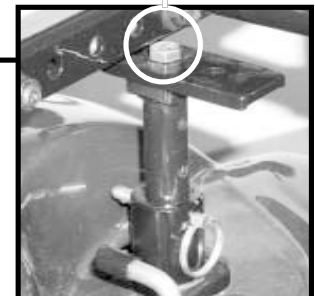

FIGURE 7. Width Adjustment
1. Remove the width adjustment bracket side bolts from each side of the seat base (there are a total of four width adjustment bracket side bolts), using a 1/2-inch wrench. See figure 7.
1. Loosen the width adjustment bracket bolts (four total), using a 1/2-inch wrench. See figure 7 for location.
1. Remove the four width adjustment bracket bolts, using a 1/2-inch wrench. See figure 7 for location.